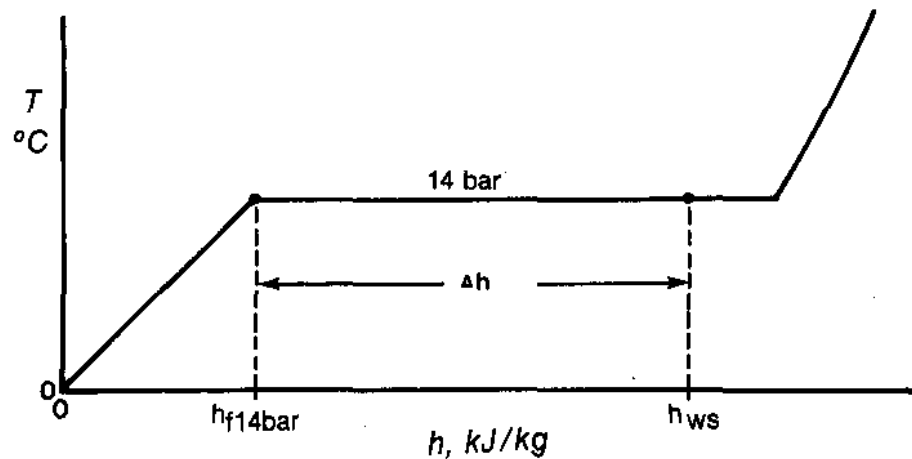

Figure 1.20
- 1.23) In this case, Δh is $h_{ws} - h_{f14\text{bar}}$. Since there is no mention of temperature change, we will assume the wet steam to be at 14 bar. This is shown on Figure 1.20:
By inspection of Figure 1.20, you will see that Δh is the same as the percentage of latent heat added to the saturated liquid. Since the steam is 10% wet, 90% is the percentage of latent heat added.